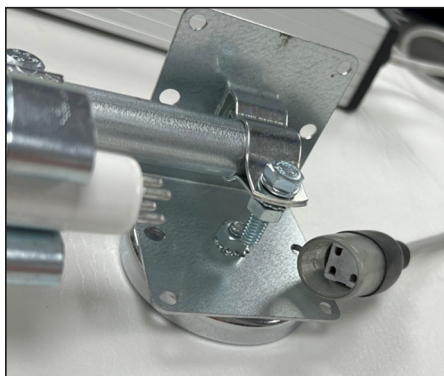
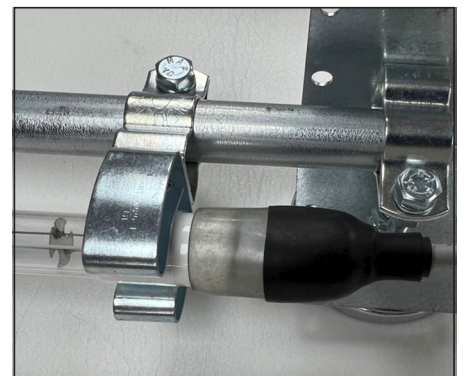

Figure 4A: UV Lamp Cable Connector and Lamp Pins
Figure 4B: Proper Cable and Lamp Connection
The UV lamp cable is prewired from the magnetic power enclosure. The lamp connection side of the cable is shown in Figure 4A. The cable connector is keyed to match the UV lamp pins. Align the lamp pins with the connector and push together. If connection is not made easily, rotate the connector 90° and then push together. The proper lamp connection should match Figure 4B.
5. Connect UV lamp cable(s) to lamps (reference Figures 4A and 4B).